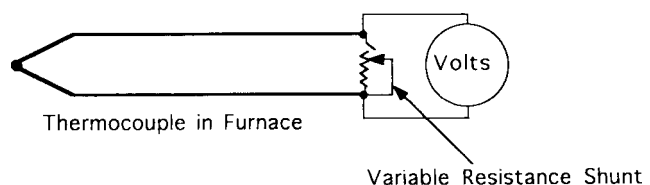

FIG. 1 An Alternative Method to Measure Loop Resistance
7.1.3 An alternative method to determine the loop resistance of a thermocouple at elevated temperatures is to shunt the thermocouple at the connector prongs with a switchable variable resistor. Measure the open-switch thermocouple Seebeck voltage between the connector prongs with a high impedance voltmeter capable of measuring in the microvolt range (see Fig. 1). The measuring junction must be at constant temperature and the connector prongs must remain at the same terminal temperature during this test. Close the switch and adjust the resistance of the variable resistor until the closed-switch measured voltage is $\frac{1}{2}$ that of the open-switch Seebeck voltage (at which time the variable resistor has the same resistance as the thermocouple loop). The variable resistor is then removed from the circuit and its resistance measured directly with an ohmmeter. This method avoids the complication of the Seebeck voltage that is referred to in Note 2.